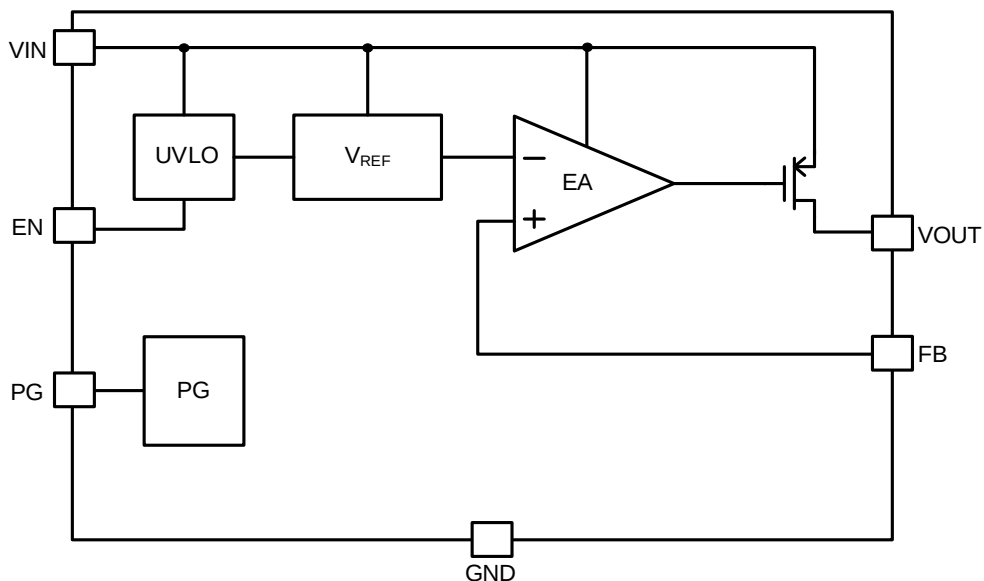
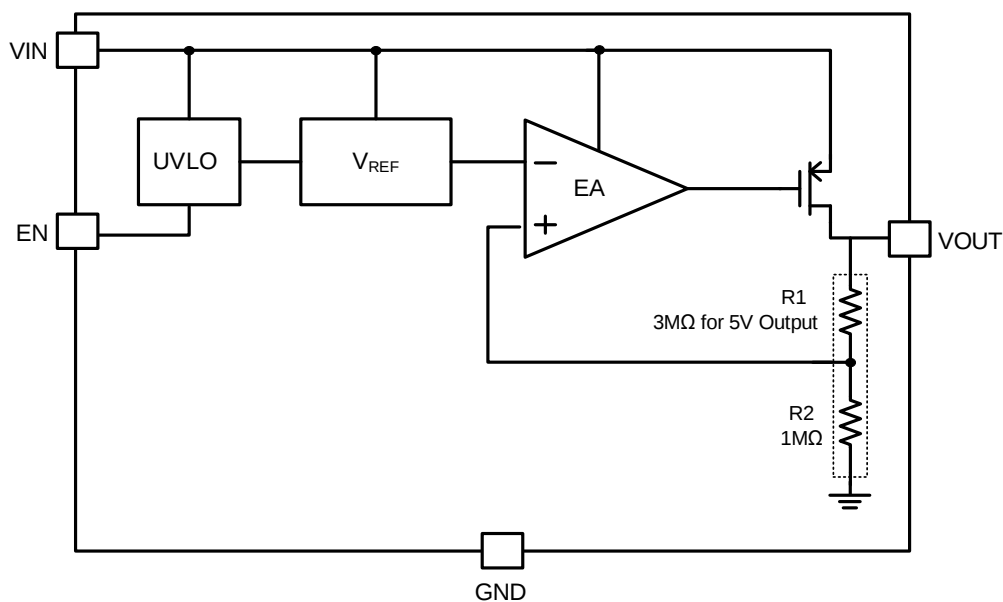

Figure 1: Functional Block Diagram (Adjustable-Output Version)
Figure 2: Functional Block Diagram (Fixed-Output Version)
The MPQ20082 is a linear regulator that supplies power to systems with high-voltage (HV) batteries. It includes a wide 3V to 40V input voltage (V_{IN}) range, low-dropout voltage, and low quiescent current (I_Q). Figure 1 and Figure 2 on page 14 show the MPQ20082's operation.